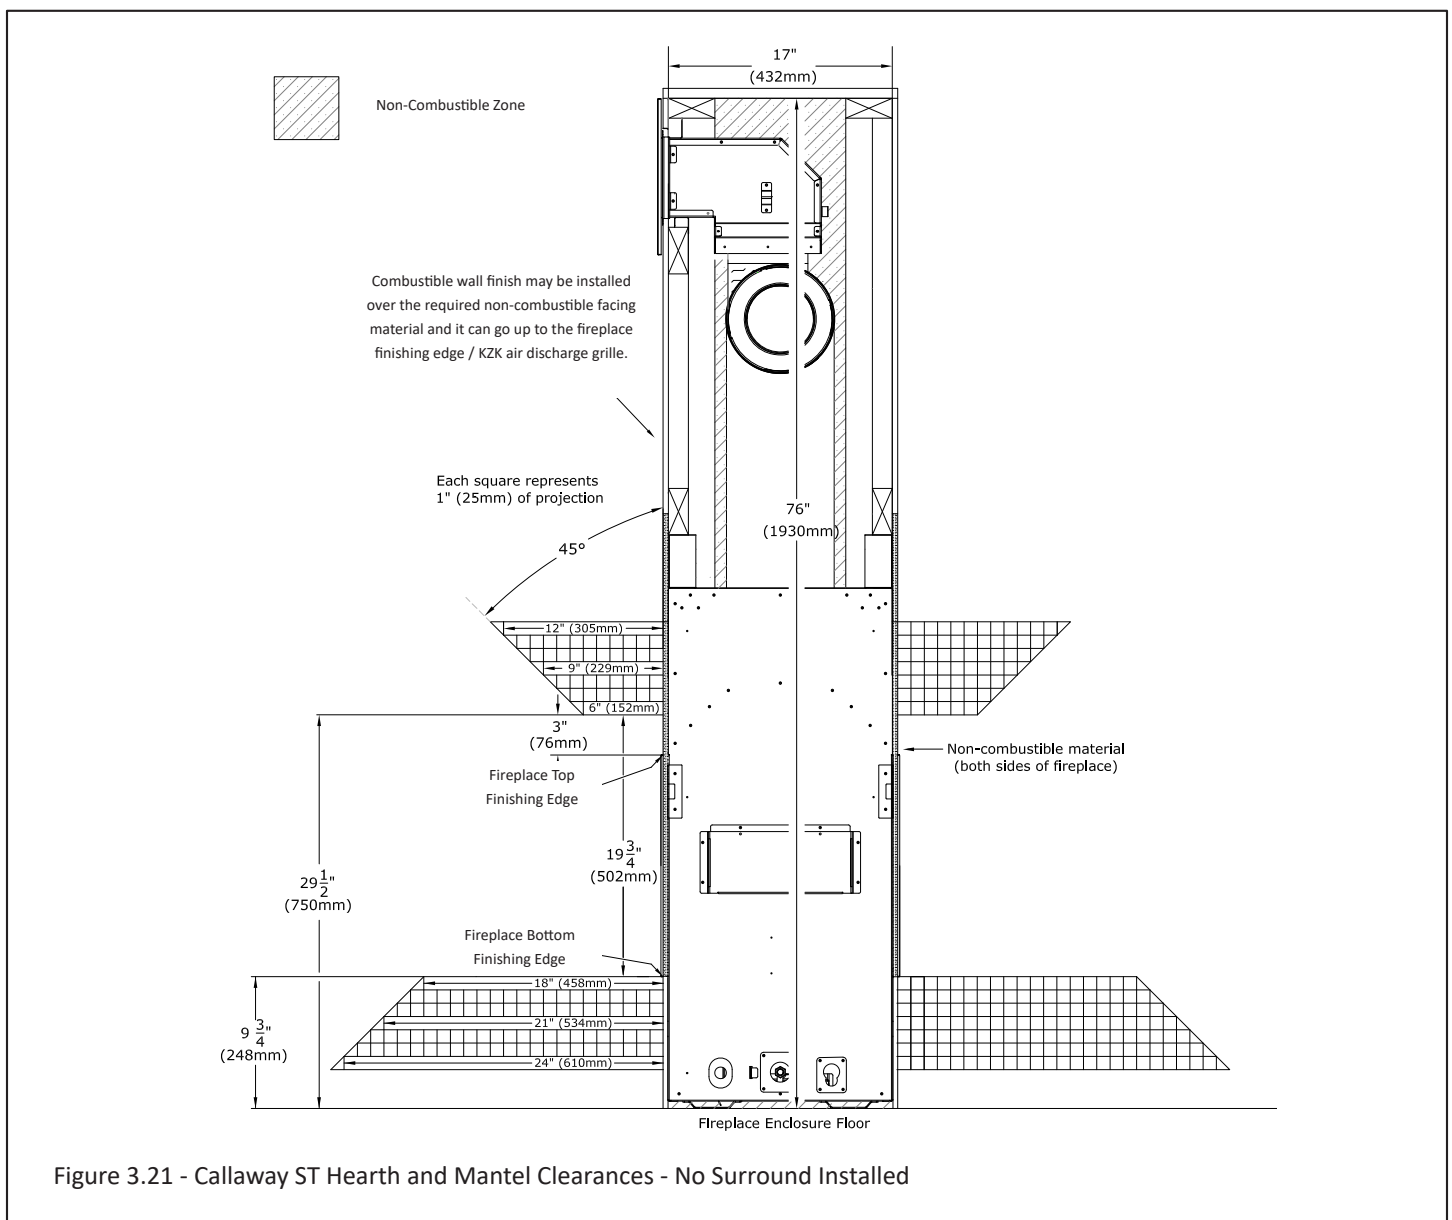

Figure 3.21 - Callaway ST Hearth and Mantel Clearances - No Surround Installed
- Combustible Mantel Projections (no surround): As referenced in Figure 3.21, the 6" (152mm) combustible mantel can start at 0" (0mm) from the fireplace top finishing edge. Mantel projections can increase 1" (25mm) of depth for every 1" (25mm) of height starting at the 6" (152mm) mantel. Refer to Figure 3.1 if you are using an optional surround.